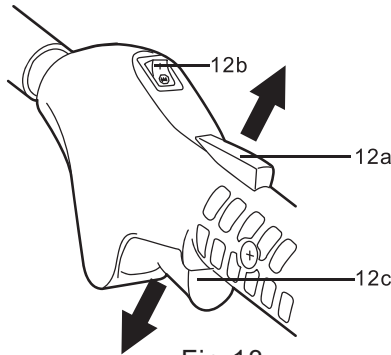

Fig.13
- > Release the throttle interlock (12a) and throttle control (12c) and let the product to run at its idle speed for 10 – 15 seconds (Fig. 13).